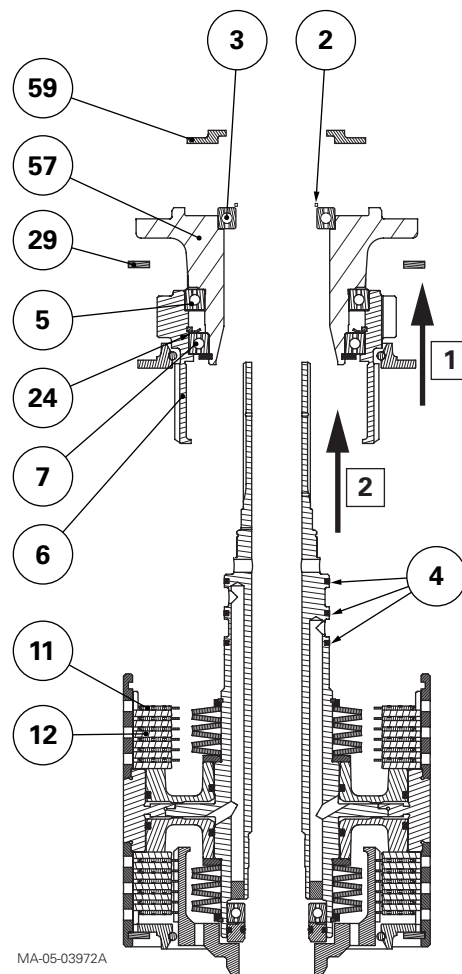

Fig. 10
34. Remove the plate (59). Remove the snap ring (2).
35. Remove the circlip (29) (step 1 Fig. 10).
36. Remove the bearing (57), reverse pinion (6), bearings (5) (7) and bearing (3) assembly (step 2 Fig. 10).
37. If it is necessary to replace the bearings (5) (7), take off the circlip (8), oil deflector (24) and snap ring (25).
- NOTE:** Mark the order of assembly of the oil deflector (24).
38. Remove the clutch discs (11) and thrust plates (12).
39. Remove and discard the rings (4 Fig. 10).